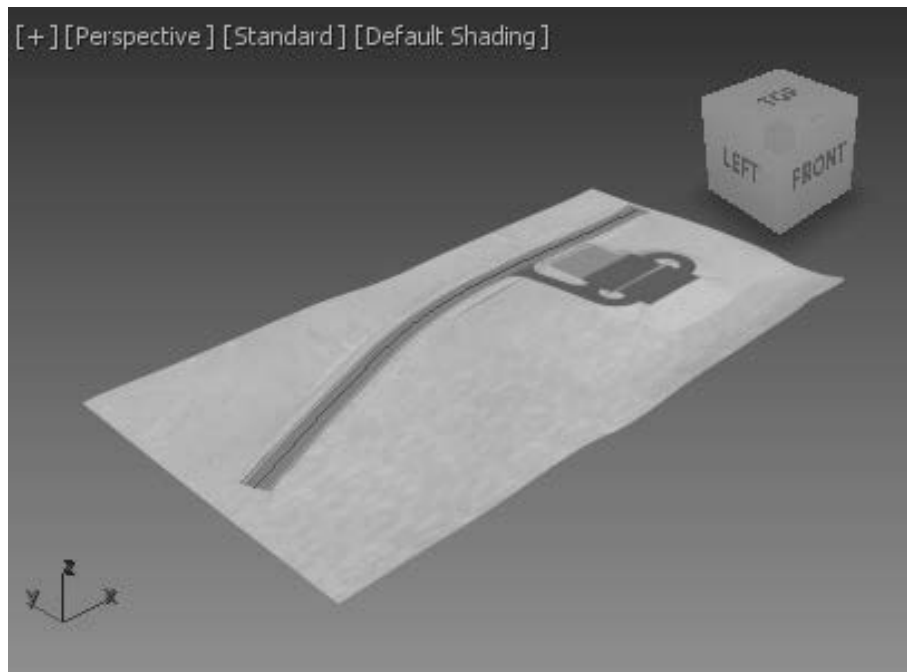

Figure 3–14
13. Click  (Zoom Extents All). In the **Perspective** view, the scene displays with all the required materials, as shown in Figure 3–14.